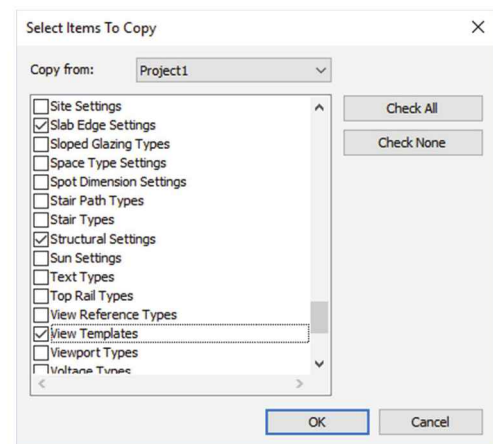

FIGURE 8-2.1 Transfer project settings
8. Check only the boxes for the items listed below (Figure 8-2.1):